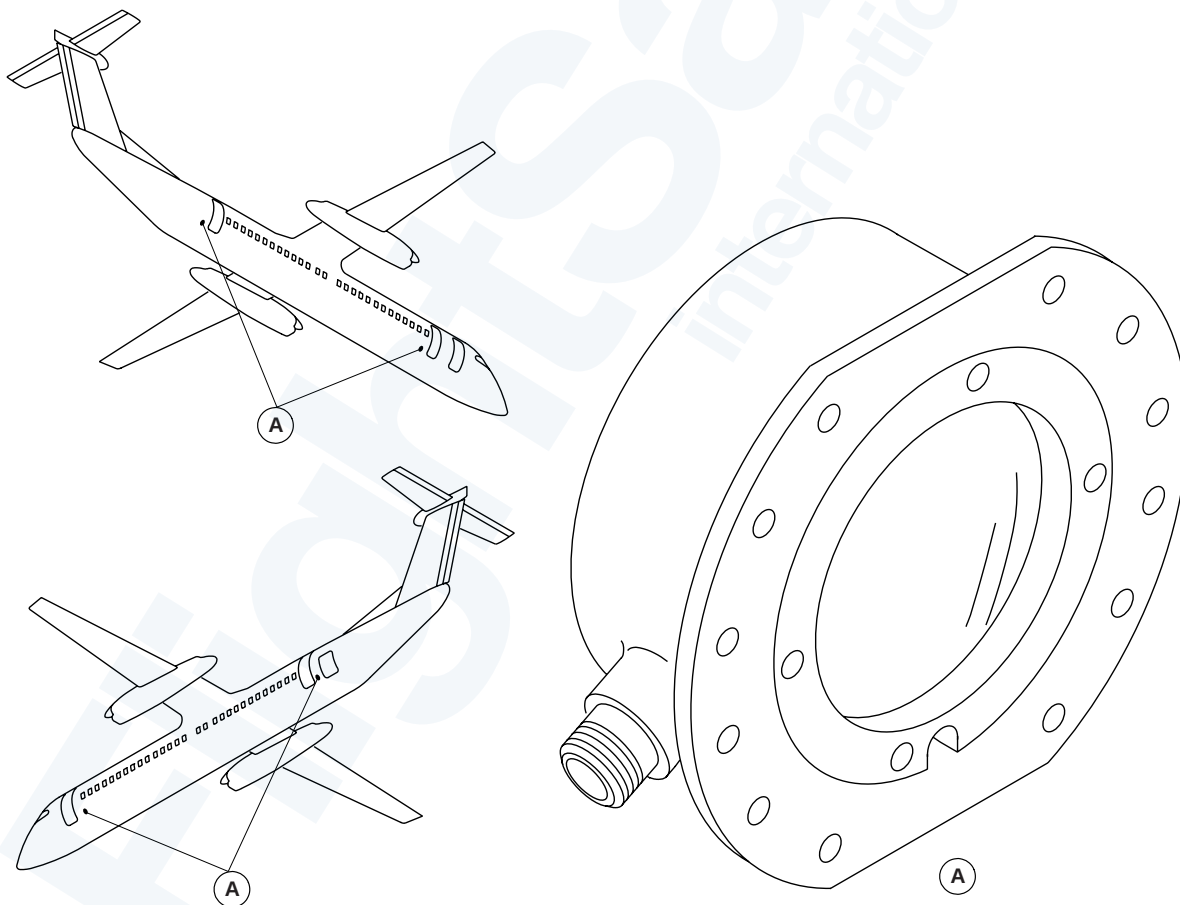

Figure 33-76. Emergency Egress Lights Locator
- Figure 33-76. Emergency Egress Lights Locator. Locator.